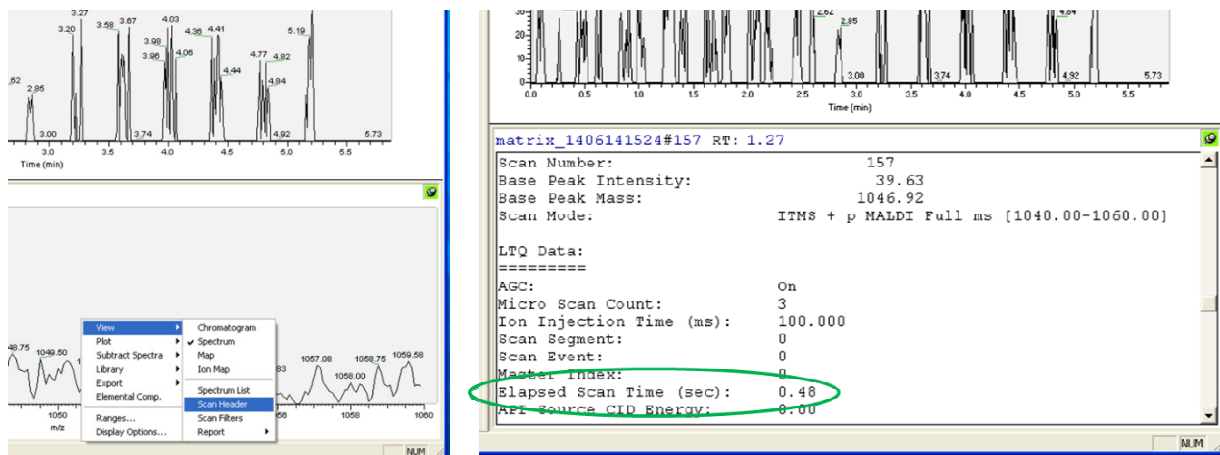

Figure 3 Viewing the Scan Time
- b. Qual Browser- right click to the MS window and select the **View >Scan Header**(the user needs to look for the "Elapsed Scan Time"-see Figure 3).